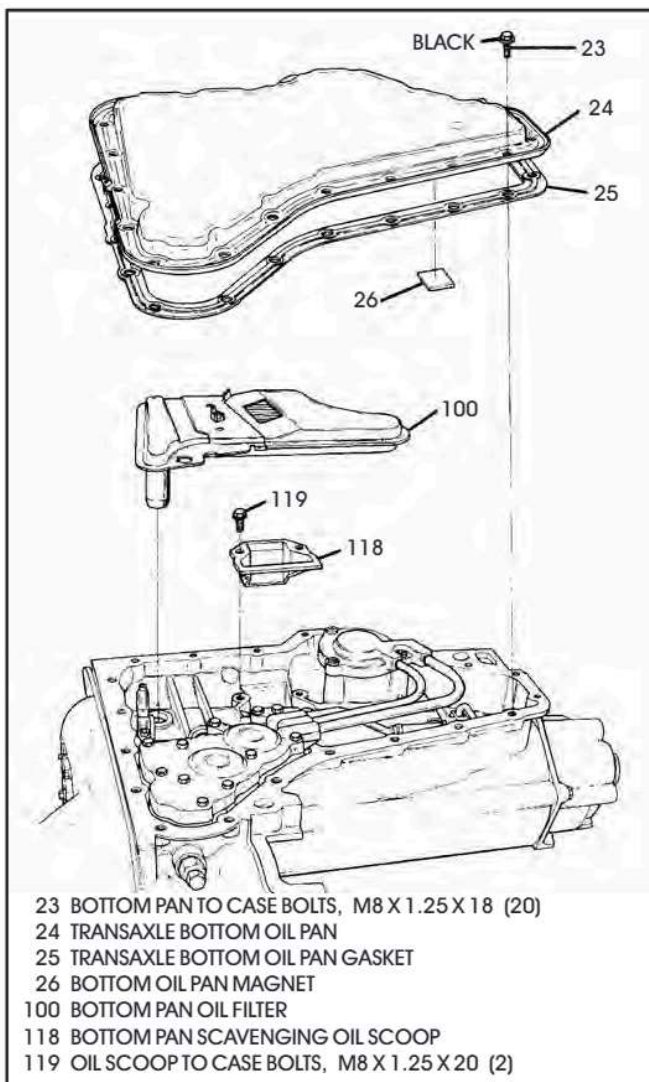

Figure 219
14. Lube new bottom pan filter neck with a small amount of Trans-Jel®, and install filter into the seal, as shown in Figure 219.
15. Install new bottom pan gasket onto transaxle case, as shown in Figure 219.
16. Install the bottom transaxle oil pan, as shown in Figure 219.
- Note: Ensure that the bottom pan magnet is in place before installing (See Figure 219).**
17. Install the 20 bottom oil pan retaining bolts, as shown in Figure 219, and torque the bolts to 17 N·m (13 ft.lb.).